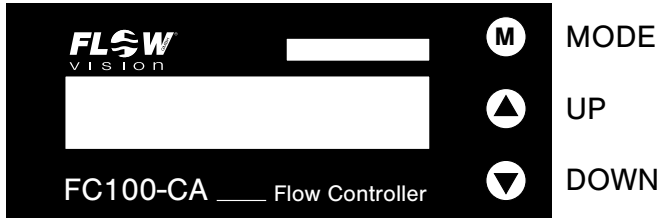

fig. 24
Setting and configuration is by means of three front keys (M) MODE, (▲) UP and (▼) DOWN (see fig. 24).